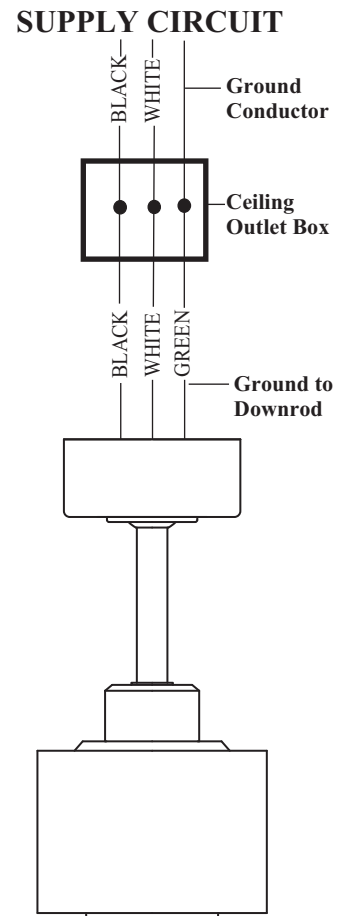

Figure 10
1. Connect the fan supply (black) wire to the black household supply wire as shown in Figure 10.
1. Connect the fan supply (black) wire to the black household supply wire (Conductor cable between ceiling and wall outlet box). (Fig. 10)